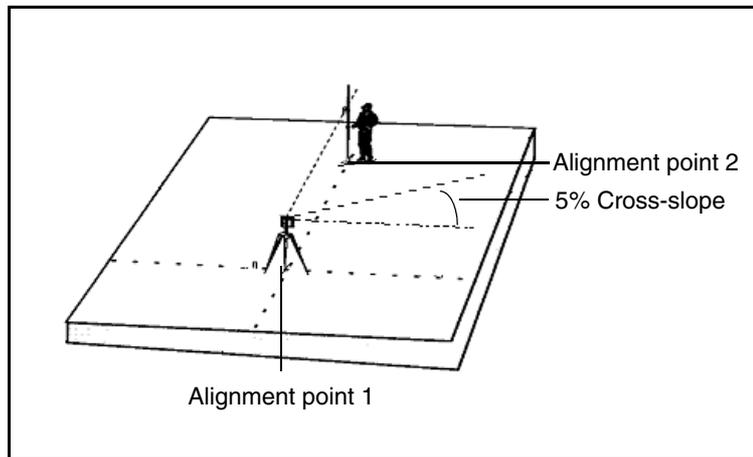

Figure B.3 Precise alignment of the laser transmitter
1. Set up the laser transmitter directly over a reference point. This is shown as Alignment point 1 in Figure B.3.
3. Use the sighting grooves on the top of the laser transmitter to roughly align one axis to a second alignment stake. This is shown as Alignment point 2 in Figure B.3.
6. Enter a large value, for example +5.000%, into the cross-slope (\blacktriangle) axis. This means that the laser plane is raising to the right side of the laser transmitter. Figure B.3 shows these points.